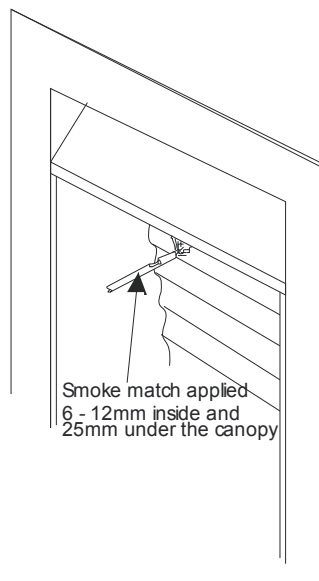

Figure 71
3. Test for spillage using a smoke match (in a 'Blume tube') at the top of the appliance, fireplace opening or under the canopy at the centre, with the smoke match being approximately 25mm under and 6 - 12mm inside the opening (see **Figure 71**).